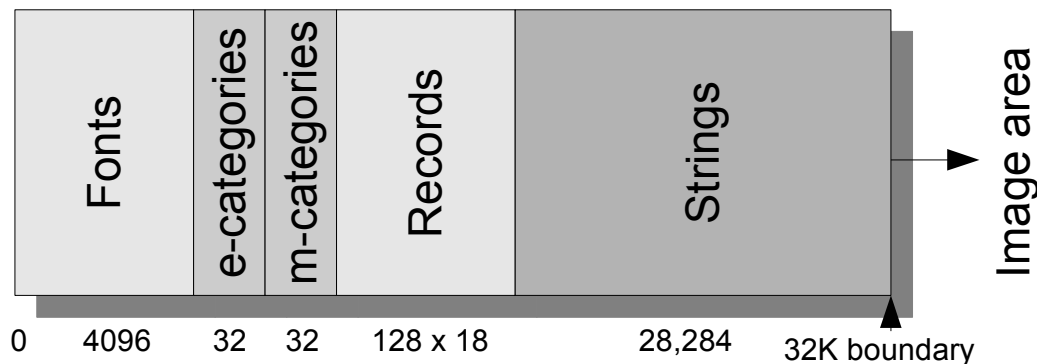

Figure 1: EEPROM layout
The organization of EEPROM is shown in Figure 1. After a preliminary discussion with Wlodek, we have decided to modify this as follows: 1) add a separate area for "Ignore" IDs (they need not look like records, and it makes sense to keep them in a separate table); 2) add a dynamic data area where the praxis can store non-volatile stuff. I will revise this figure when these changes have been implemented. The first 4KB chunk is used by the fonts file needed for rendering texts on the Nokia LCD. At location 4096, we have two word arrays, 16 items each, representing the category lists: event categories and *my* categories. Not all slots have to be filled: the array size (16) determines the limit on the number of categories, with the actual number possibly being smaller. The